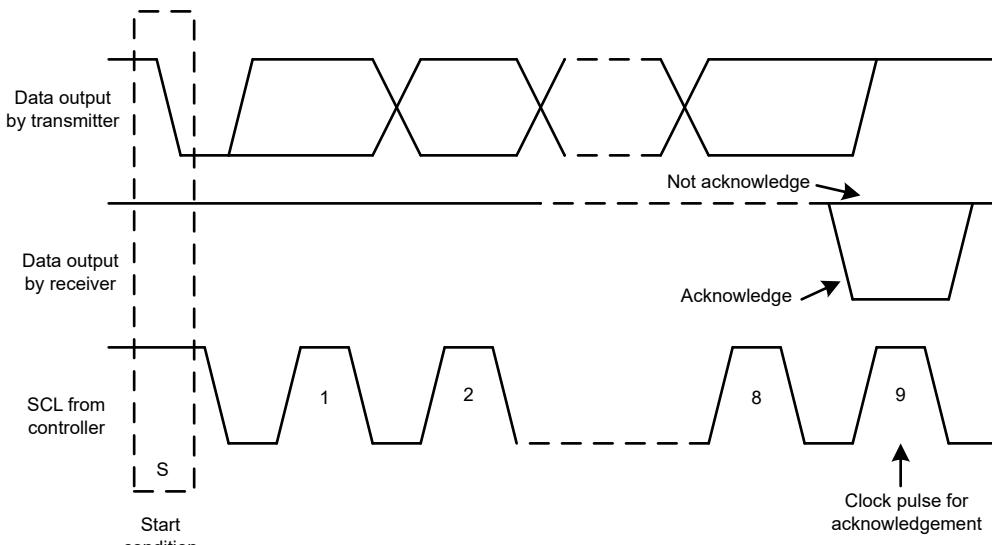
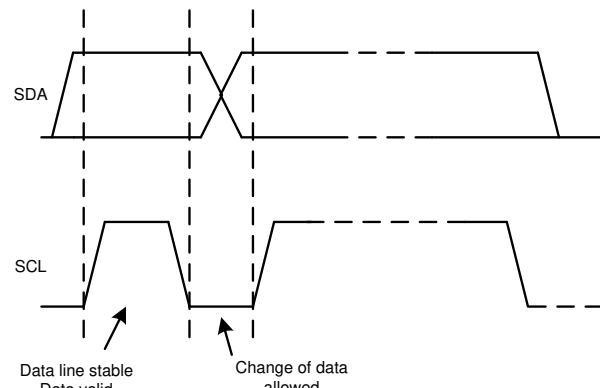

图 7-11. Acknowledge and Not Acknowledge on the I²C Bus
图 7-13. Bit Transfer on the I²C Bus
Other than specific timing signals, the I²C interface works with serial bytes. At the end of each byte, a ninth clock cycle generates and detects an acknowledge signal. An acknowledge is when the SDA line is pulled low during the high period of the ninth clock cycle. 图 7-11 depicts a not-acknowledge, when the SDA line is left high during the high period of the ninth clock cycle.
2. The controller then generates the SCL pulses, and transmits the 7-bit address and the read/write direction bit (R/W) on the SDA line. During all transmissions, the controller makes sure that data are valid. 图 7-13 shows that a valid data condition requires the SDA line to be stable during the entire high period of the clock pulse. All devices recognize the address sent by the controller and compare the address to the respective internal fixed address. Only the target device with a matching address generates an acknowledge by pulling the SDA line low during the entire high period of the 9th SCL cycle (see also 图 7-11). When the controller detects this acknowledge, the communication link with a target has been established.